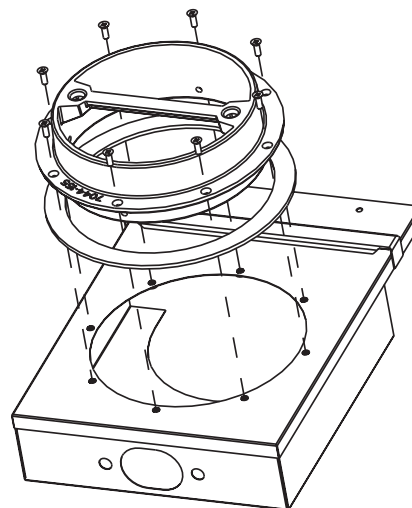

Figure 40.3
2. Slide the gasket over the flue collar and attach it to the offset adapter using the 8-32 flathead screws provided (**Figure 40.3**).